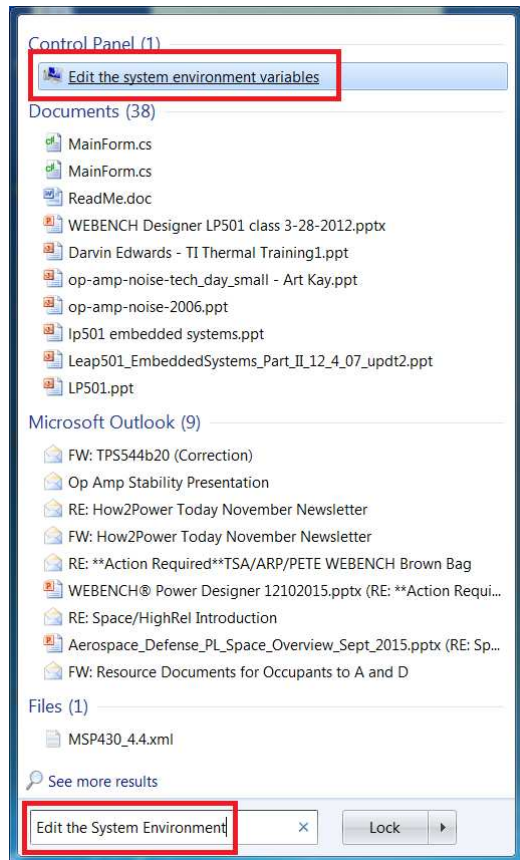

Figure 11. System Environment Variables
2. In the Start Menu, search for “Edit the System Environment” and select “Edit the system environment variables.” Refer to Figure 11.